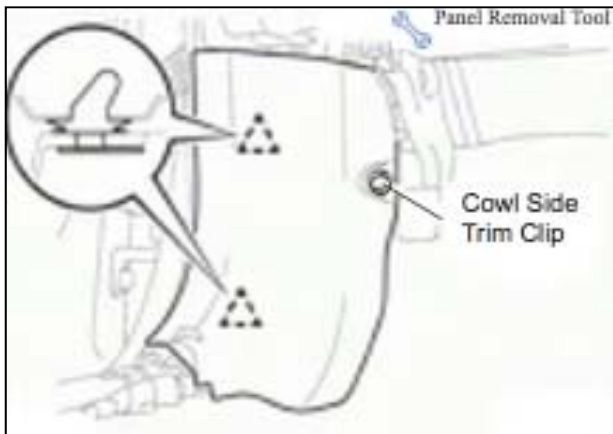

Figure 4
6. Remove the driver side cowl side trim. Unscrew the cowl side trim clip. Disengage (2) clips and remove the cowl side trim. See Figure 4.